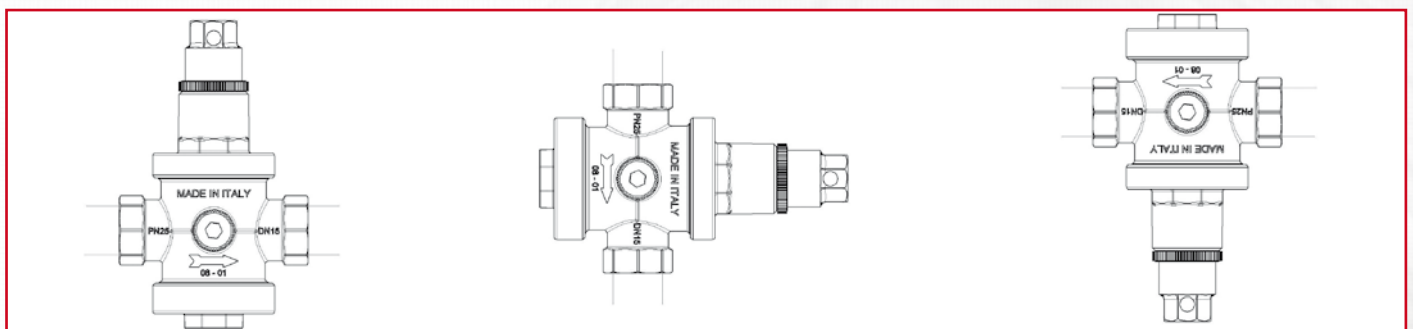

FIG. 4.1
- Svitare la ghiera in nylon (fig. 4.1).
- Unscrew the nylon nut (Fig. 4.1)